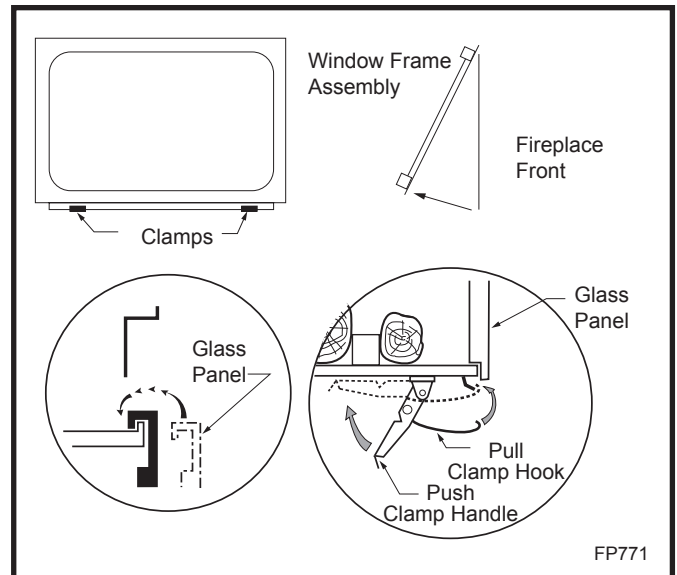

Fig. 46 Window frame assembly removal.
5. Release the two clamps along lower edge of the frame by pulling down on clamp handles. (Fig. 46)